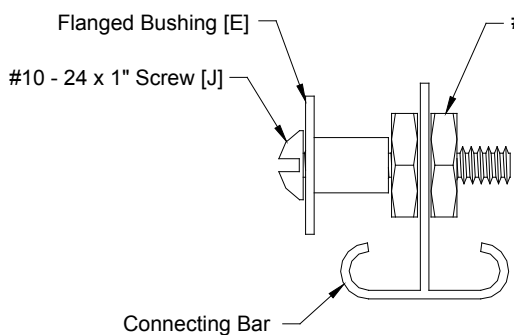

Figure 10
Install (1) Bushing [E] on (1) 1" Screw [J] with Nut [K]. Insert this assembly in hole approximately 6" down from top of each Connecting Bar and secure with (1) Nut [K]. See Figures 10 and 11.